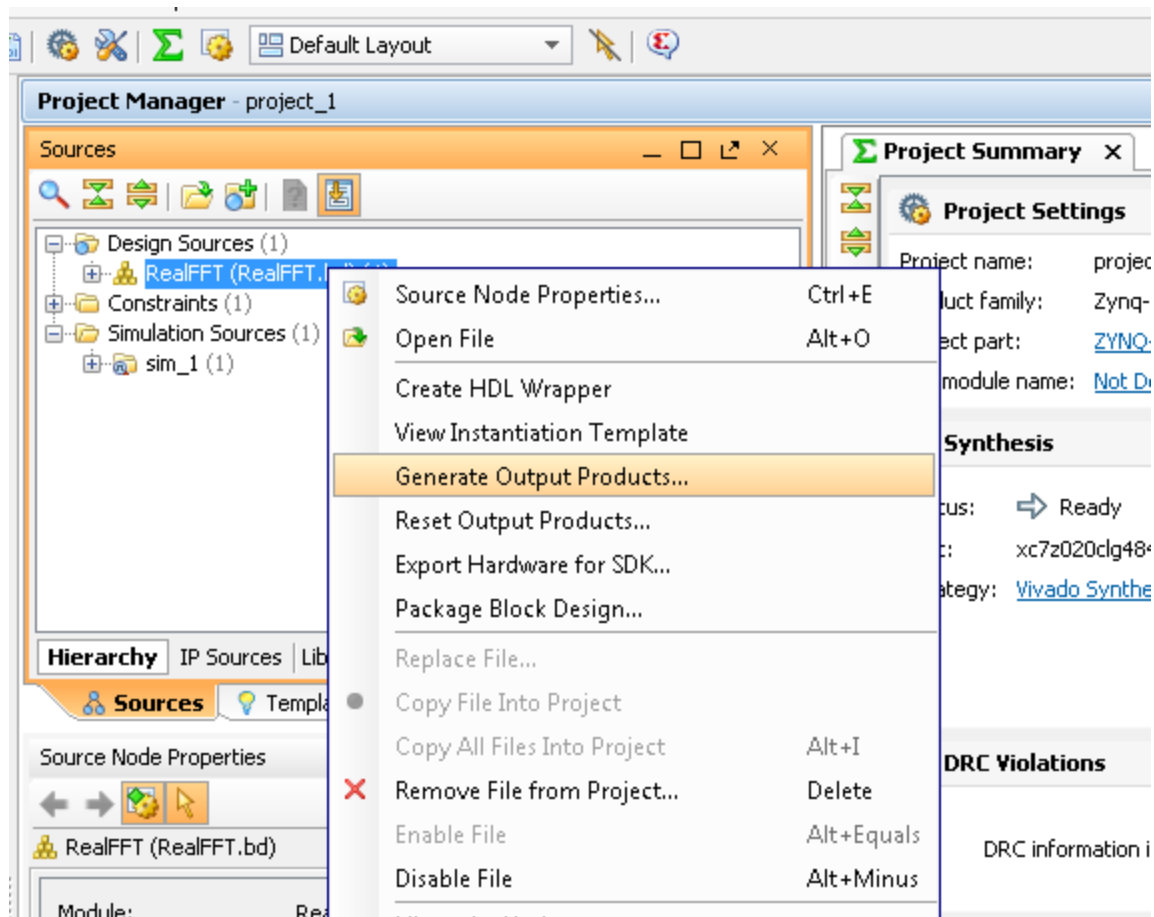

Figure 209: Generating Output Products
- a. In the **Sources** tab of Project Manager pane (Figure 209), right-click **RealFFT.bd** and select **Generate Output Products**.